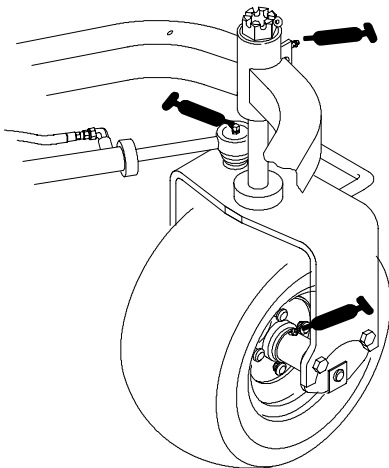

Figure 31
- rear wheel hub (1)
- Castor bearing (1)
- Steering cylinder (2) (Fig. 31)